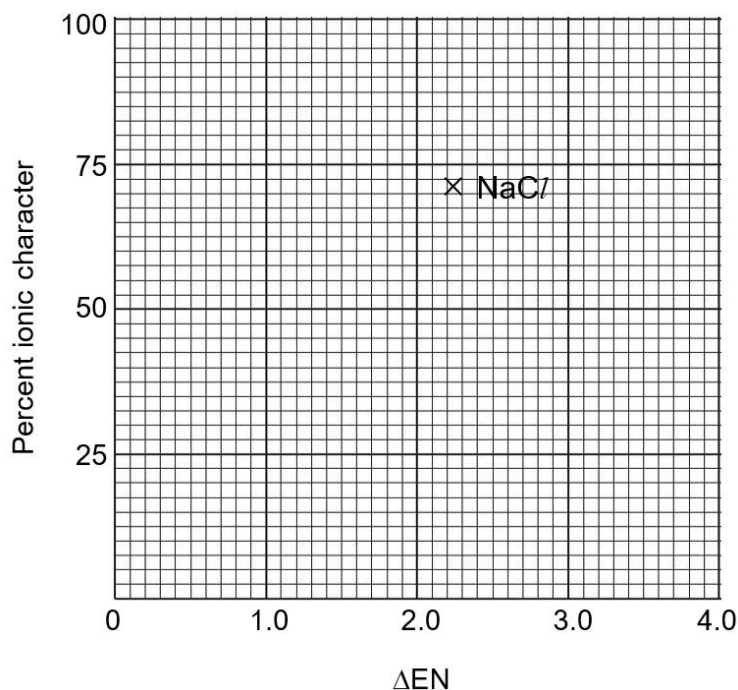

Fig. 1.1
The ionic character of a bond is directly related to the electronegativity difference (ΔEN) between the bonded atoms. Fig. 1.1 shows the plot of percent ionic character against ΔEN for NaCl.
- (ii) Using the values in Table 1.1, calculate ΔEN for $AlCl_3$ and PCl_5 respectively. Hence plot the percent ionic character of $AlCl_3$ and PCl_5 on Fig. 1.1. Label your points clearly. [2]